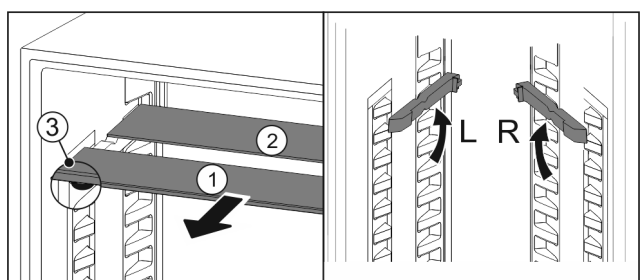

Fig. 105
- ▶ Pull the glass panels out *Fig. 105 (1)* from the front, one at a time.
- ▶ The glass panel *Fig. 105 (1)* and trim strip are at the front.
- ▶ The stops *Fig. 105 (3)* point down.